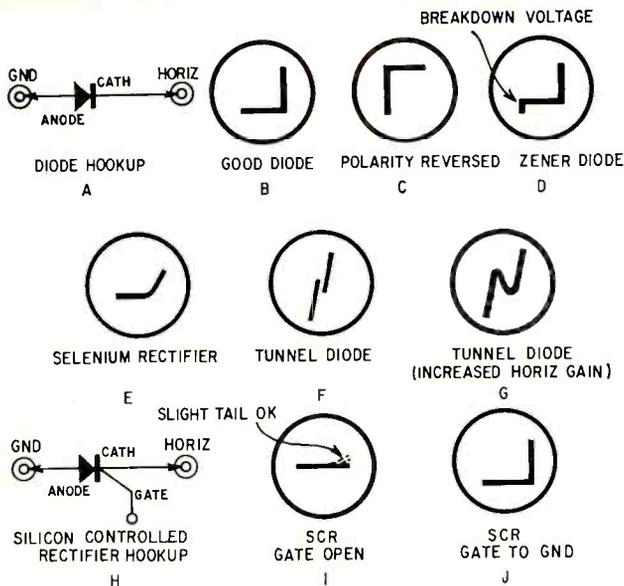

Fig. 3—Diode and rectifier tests with the Tracer.
The equalizing components in the KLH Model 8, an FM receiver, are shown in Fig. 3.
to HORIZ, as shown in Fig. 3-a. A good diode will look like Fig. 3-b. If you've connected the diode with the anode and cathode inverted, the pattern will be inverted (Fig. 3-c); this allows you to identify the polarity of unmarked diodes. If the vertex of the L-shape is rounded, or if either leg is much shorter than the other, or slanted from the horizontal or vertical, the diode should be discarded.
**Zener diodes.** Connect as for any other diode. If the Zener "breakdown" voltage is below about 10 volts, you'll get a pattern like Fig. 3-d. The distance of the breakdown ledge from the vertex is a measure of the Zener voltage, from zero at the vertex, to 10 volts at the end of the horizontal leg.
**Selenium rectifiers.** Connect as shown in Fig. 3-e. Typical pattern is Fig. 3-e. Note the rounded vertex and
**Tunnel diodes.** Connect as shown in Fig. 3-a. The initial display will be as shown in Fig. 3-f—two vertical lines with a gap in the center. However, by increasing the scope's horizontal gain, you can get the pattern of Fig. 3-g, almost the classical tunnel-diode curve! Remember to recalibrate the scope (reduce horizontal gain) before testing other components.
**Silicon controlled rectifiers (SCR's).** Connect as shown in Fig. 3-h, with the gate *not* connected. The pattern should be as shown in Fig. 3-i, possibly with a slight slanted tail. Now, with a cliplead, connect the gate to GND, and you should get the pattern of Fig. 3-j, since the SCR will now conduct during the half-cycle when the anode and gate are positive with respect to the cathode.
As shown in the photos, the original printed circuit can be used in the OL-1 (the IO-21 does not use a printed circuit). Fig. 2 shows the original schematic of the vertical deflection amplifier. Fig. 3 shows the modified amplifier. The parts and wiring shown as heavier lines are new or replaced. Notice the low plate-load-resistor values, with peaking coils in series. On the OL-1 it is best to modify the vertical position circuit as shown. The extra wiring to external terminals for the plates should also be removed, since it seriously affects performance at the upper end of the frequency range. Rise time of the new circuit is about 0.1  $\mu$ sec or less.